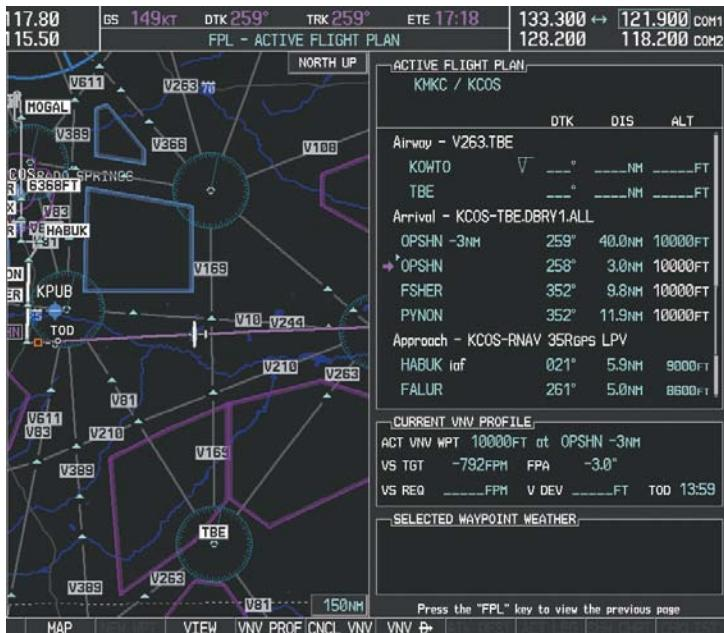

Figure 5-130 Adjusting the Descent
- Press the **VNV PROF** Softkey to place the cursor in the target vertical speed field (VS TGT) as shown in Figure 5-130.
- 15) As seen in Figure 5-130, the aircraft is approaching TOD. Note the target vertical speed required to reach the selected altitude. The Vertical Deviation Indicator (VDI) and the Required Vertical Speed Indicator (RVS) are now displayed on the PFD as shown in Figure 5-131. When the aircraft is within one minute of the TOD, it is annunciated as shown in Figure 5-132, and an aural alert 'Vertical track' will be heard.